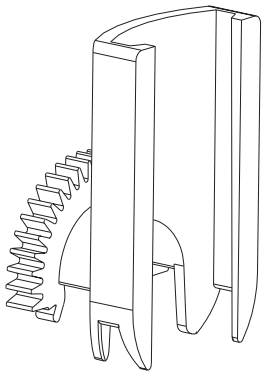

Figure 8: Antenna Shroud
- 8 Attach the antenna shrouds (Altitude 300-2i™) - If the plastic cover is going to be used attach the antenna shrouds to the antennas, see Figure 8: Antenna Shroud on page 26.